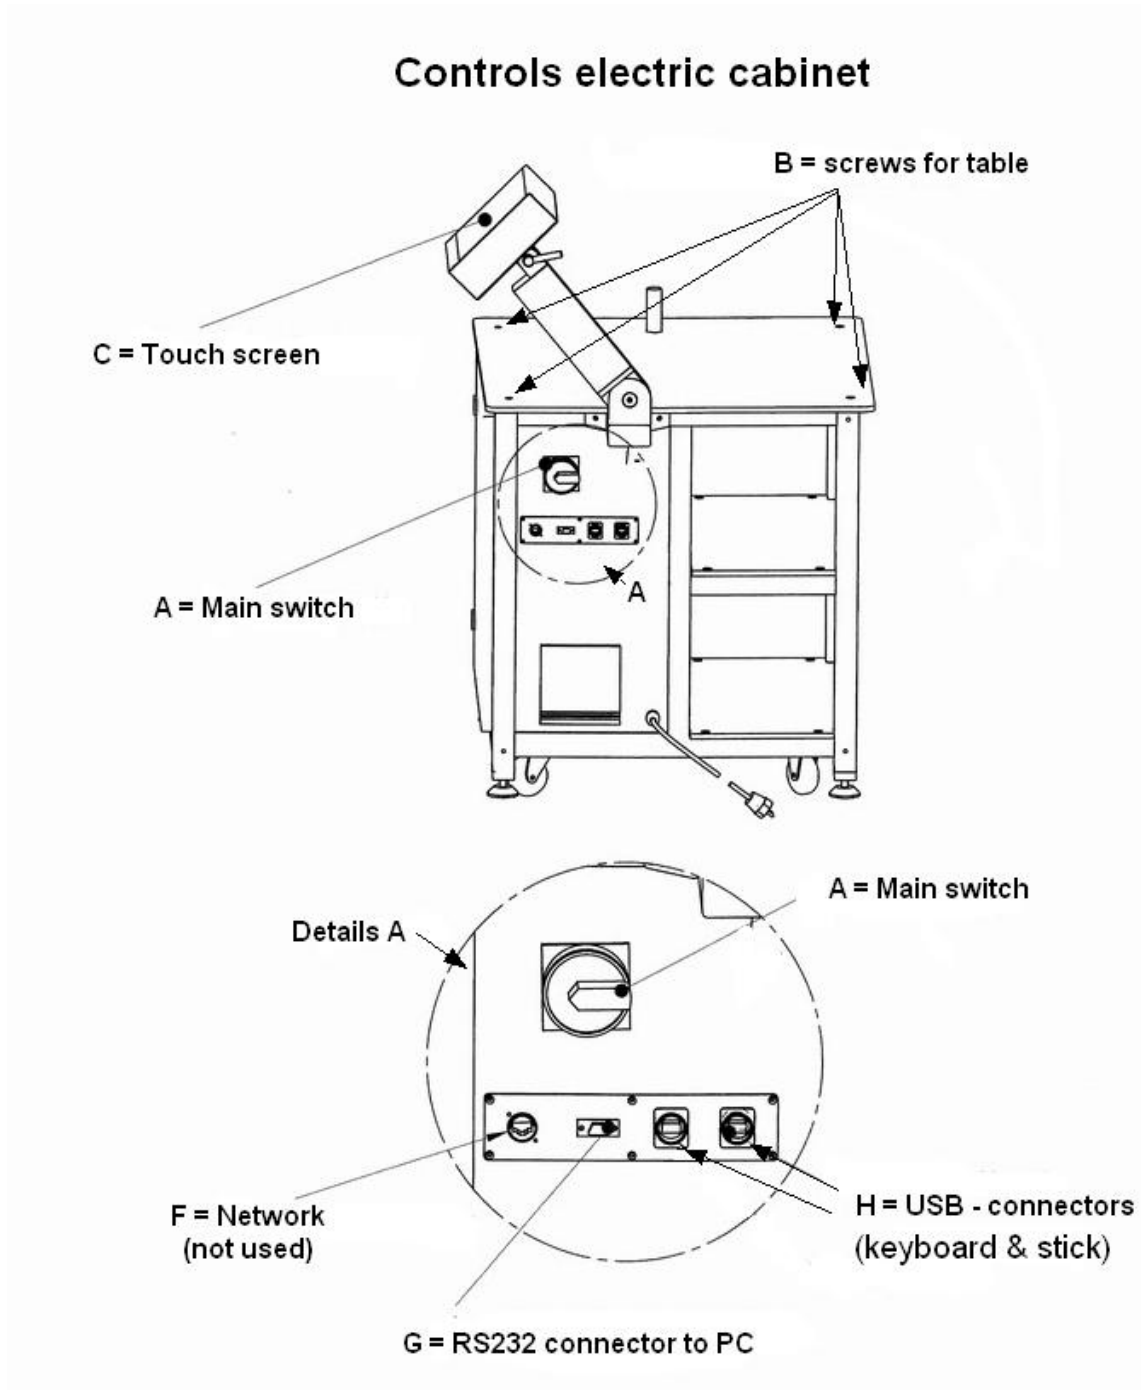

Figure 11: Controls on Electrical Cabinet
16. connect the USB cable of the keyboard to the USB connector of the electric cabinet (→ figure 11)
After you switched on the main switch (upright position) (Figure 11) the green signal lamp starts flashing. The following actions occur: